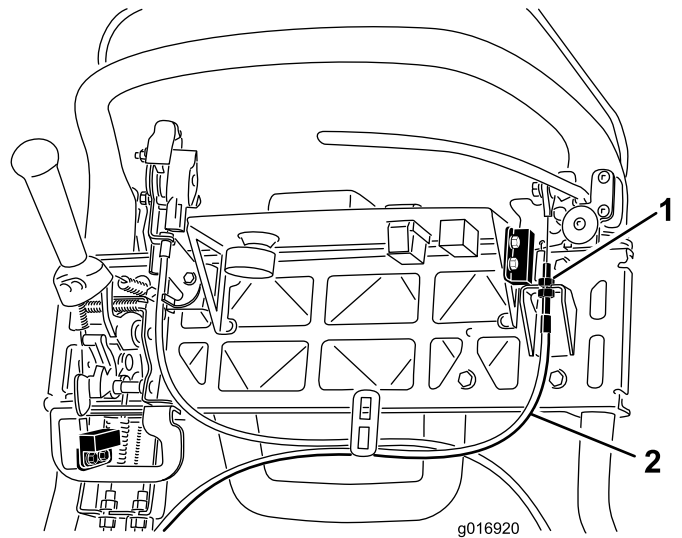

Figure 40
3. To increase the cable tension, loosen the upper cable jam nut and tighten the lower cable jam nut (Figure 40) until a force of 35 lb. (156 N) applied to the brake lever handle, is required to release the parking brake latch. Do not over adjust, or the brake band may drag.